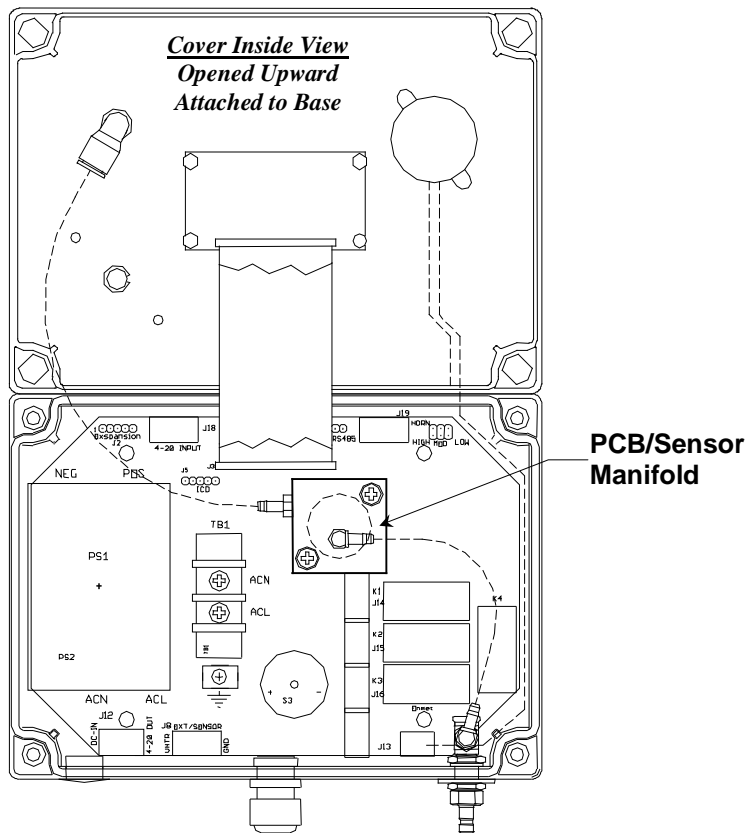

Figure 8: CO-GUARD Sensor Replacement
- Remove, the sensor assembly from the PCB/sensor manifold, see **Figure 8**.